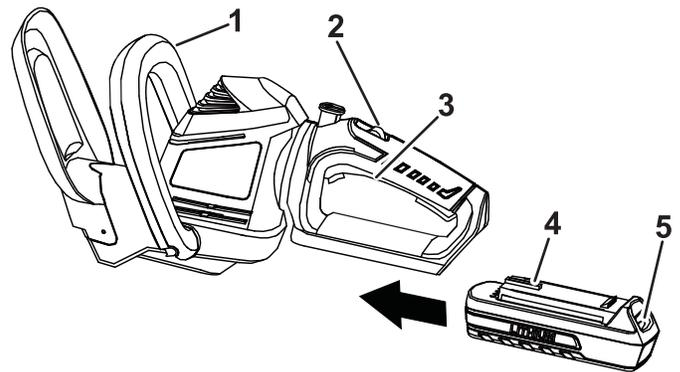

Figure 3
2. Align the tongue of the battery pack with the cavity in the handle housing (Figure 3).
3. Grasp the trigger handle (Figure 3).
5. Place one hand on the trigger handle. Place the other hand on the auxiliary handle (Figure 3).
6. Slide the lock switch backwards, towards you, then squeeze the trigger switch to turn on the hedge trimmer (Figure 3). The trimmer will stay on as long as the trigger switch is squeezed. Lock-off switch may be released once hedge trimmer is running (Figure 3).
1. Release the trigger switch (Figure 3).